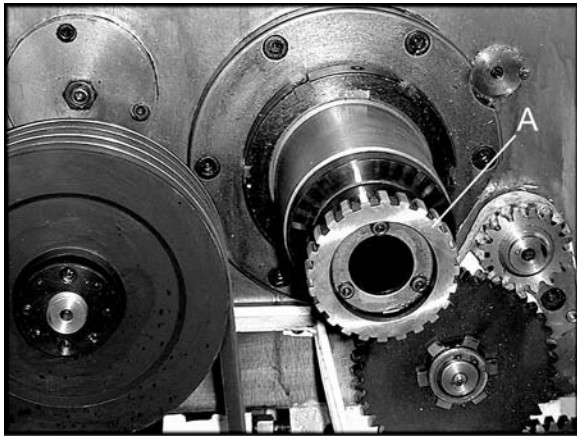

Figure 1
6. Open the headstock door. Screw the coupling assembly (A, Figure 1) into the spindle threads.